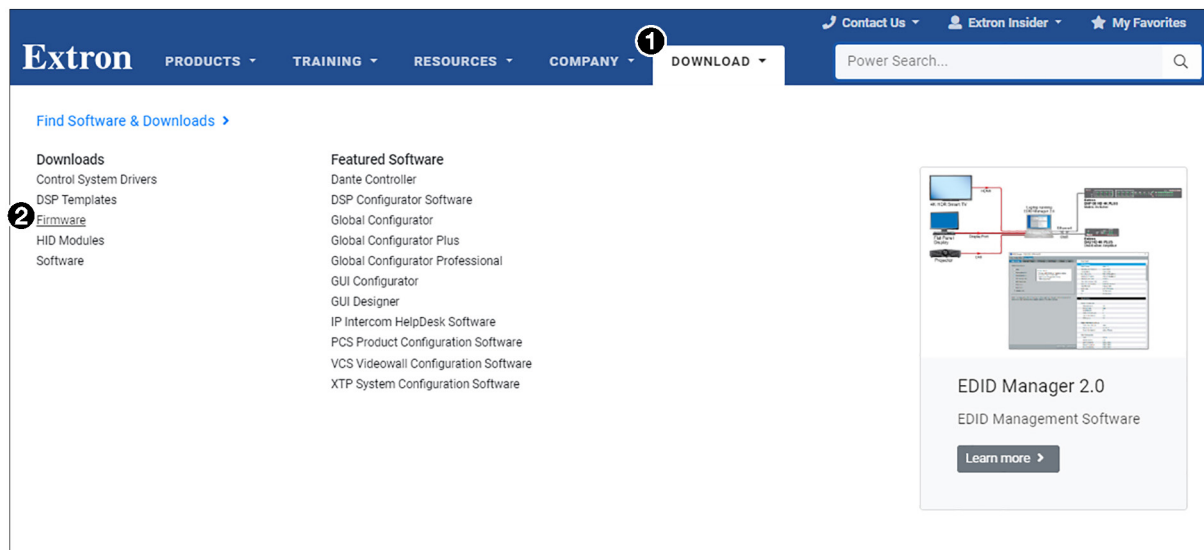
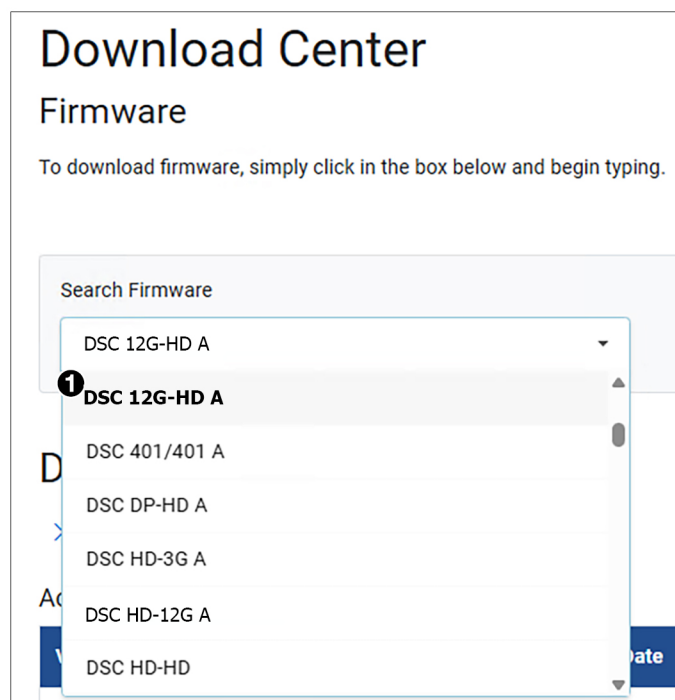

Figure 41. Downloading Firmware from the Extron Website
Figure 42. Search Firmware Drop-down List
1. On the Extron web page, click the **Download** tab (see figure 41, ①).
2. Move the pointer to the **Firmware** link (②) in the Downloads column and click it.
3. On the Software Download Center screen, click on the down arrow in the Search Firmware box (see figure 42, ①), and select **DSC 12G-HD** or **DSC HD-12G** from the drop-down list. If you need an Extron Insider ID number to access this box, contact your Extron representative.